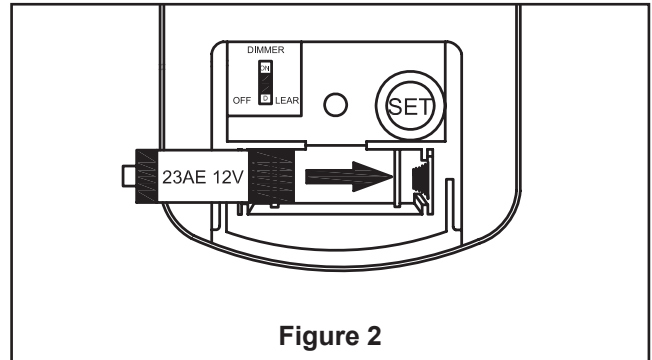

Figure 2
- ☐ 2. Remove one of the three screws in the support bracket at the bottom of the motor assembly. Slightly loosen the remaining two screws. Assemble the switch housing assembly to the support bracket using the two key slots in the socket plate. Replace the third screw and securely tighten all three screws. (Figure 2)
2. To make fan operational, install 12-volt battery (included in remote control package) into the remote. (Figure 2)
- ☐ 2. Unplug antenna, signal wire and 9-pin connector than replace new receiver. (Figure 2)